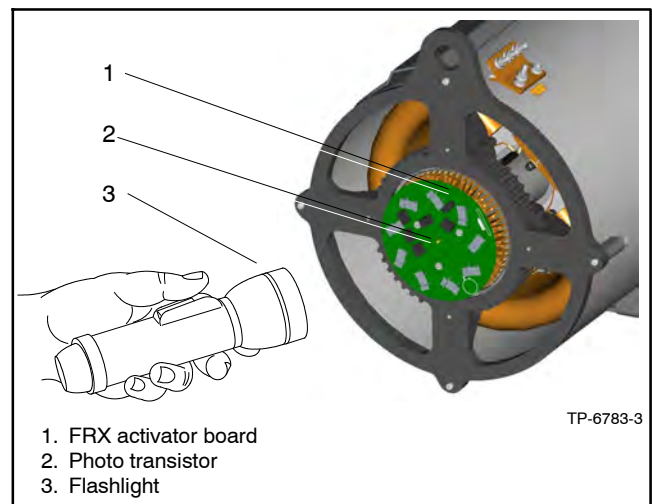

Figure 11-4 Flashlight Test on FRX Activator Board
2. Refer to the generator set operation manual for starting/stopping procedures. With the generator set running at no load, shine a flashlight at the exposed photo transistor on the FRX activator board. See Figure 11-4.